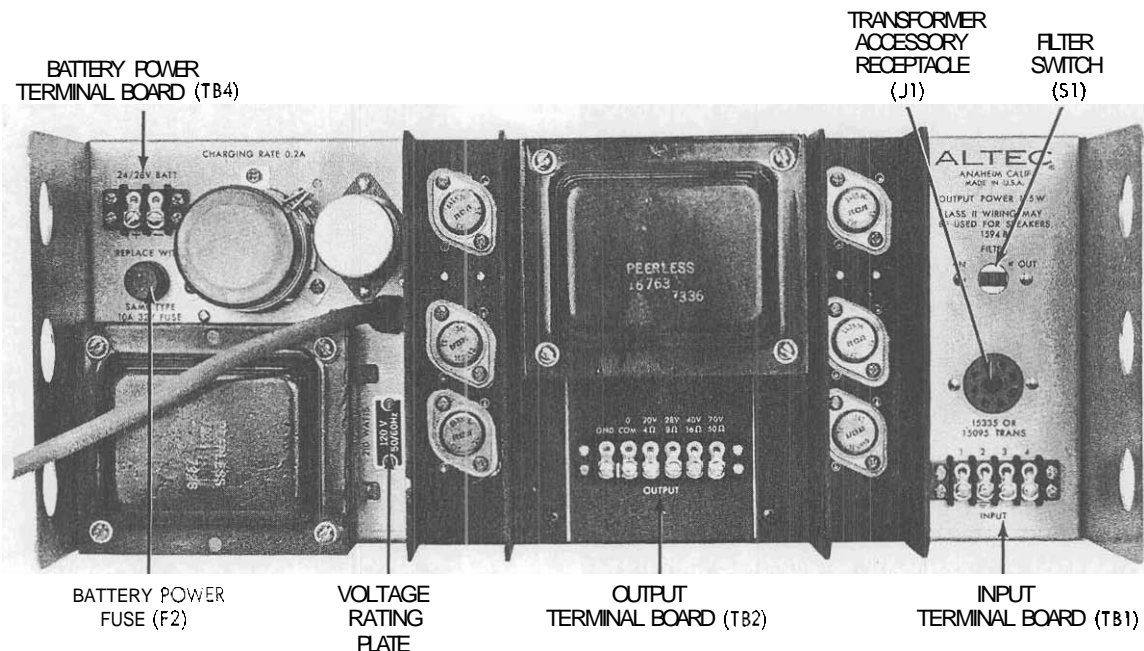

Figure 6. Rear View of 15948 Power Amplifier
1 to 2 and 3 to 4 on TB3). The power input nameplate, adjacent to the power cord on the chassis, is mounted to show the appropriate side specifying the connections (see Figure 6). Verify that line voltage is in accordance with the voltage rating before connecting the 1594B to line power.
- Step 4. Remove voltage-rating plate (see Figure 6) from chassis, reverse and reinstall to show 240V ac rating.
If desired, the 1594B may be connected to an external 24/28 volt battery with minus (-) as ground. Terminals for the dc power connections are on TB4 (see Figures 6 and 12). If ac power fails, transfer to dc power is instantaneous, automatic and silent. A built-in charging circuit supplies a 100 mA trickle current to maintain battery charge during ac operation. The battery power supply is not operated by the primary power ON-OFF switch on the front panel. If switching of battery power is desired, an external relay or switch should be provided by the user.
Input connections may be either direct-coupled or transformer-isolated at the INPUT terminal board (see Figure 6). Direct coupling is accomplished by connecting the input leads (shielded conductor recommended) to terminals 1 and 2. Terminal 2 is ground. Table I lists the terminals and applications of the INPUT terminal board.
For transformer-isolated input, a plug-in 15095A or 15335A Line Transformer must be plugged into receptacle J1 (see Figure 6). The input leads are connected to terminals 3 and 4 of the INPUT terminal board.
Output transformer taps provide connections for 4-ohm, 8-ohm and 16-ohm speakers, plus a 70.7-volt speaker distribution system (see Figure 6). For 25-volt speaker distribution systems, use the 8-ohm tap. Connect to the terminal of desired impedance and terminal 5 (common). Terminal functions and designations are listed in Table II. If stray electrostatic radiation causes interference, strap terminal 5 (common) to terminal 6 (ground).
A screwdriver-operated FILTER IN-OUT switch is located on the rear of the chassis (see Figure 6). The switch is placed in the OUT position when the 1594B is shipped from the factory.
The ac primary power fuse is mounted on the front panel (see cover photo). The battery power fuse is located on the rear of the chassis (see Figure 6). If fuse replacement is required, determine and correct any cause of failure before replacing fuse. Install an identical fuse (see PARTS LIST) by unscrewing fuse holder, replacing fuse and resealing fuse holder.